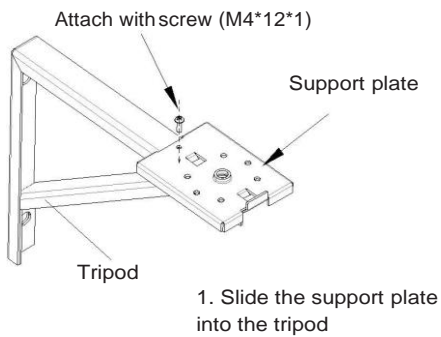

Figure 9A
Refer to Figures 9A to 9E.
1. Slide the support plate into the tripod; align both square holes and tighten with screws. (Figure 9A)